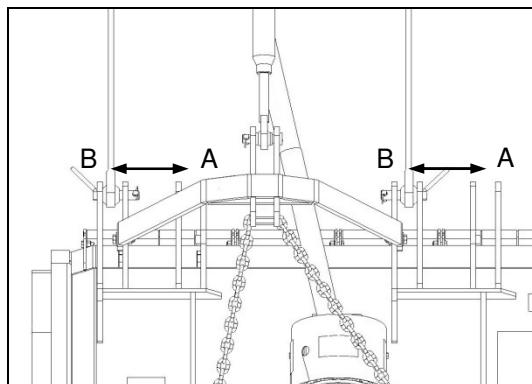

Fig. 5
- ✓ Attach the implement to the tractor hitch using the corresponding alternative hitch clevises (Fig. 5).